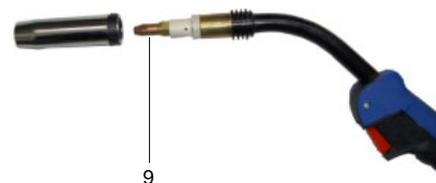

Fig.3
- Switch on the machine and press the torch trigger (models 250C/290C) or the "wire inch" key button (models 300C/350C/400C) until the wire appears outside the torch tip (9-fig.3). If necessary, unscrew the tip torch and straight torch cable.